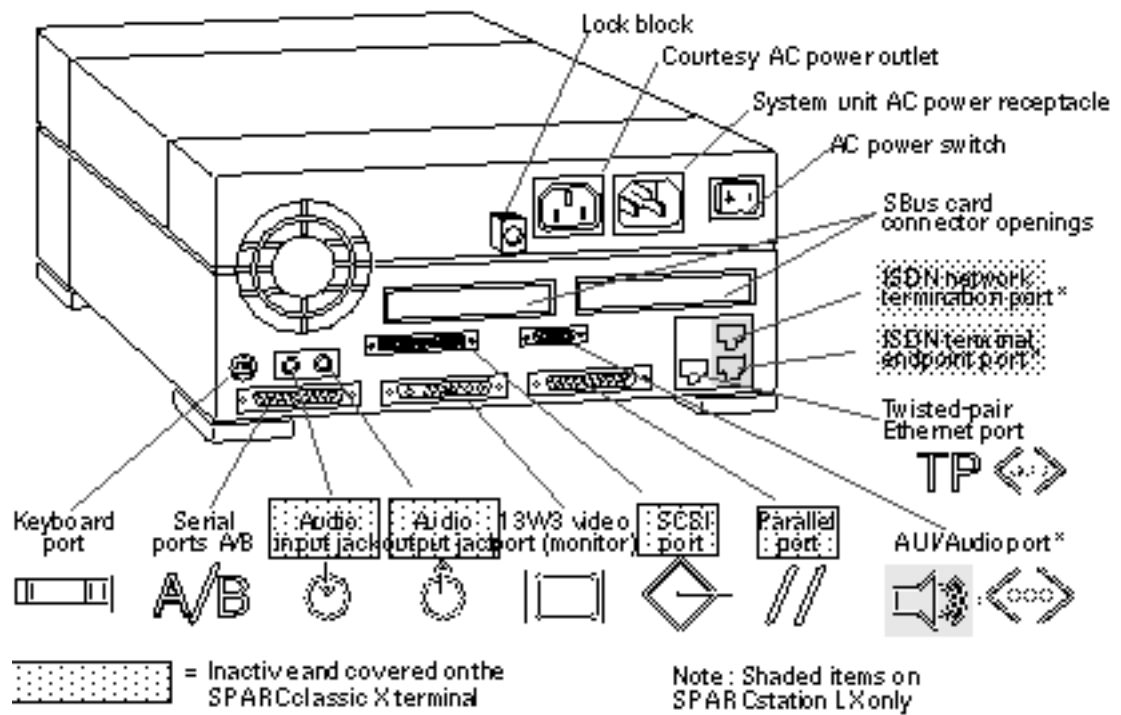
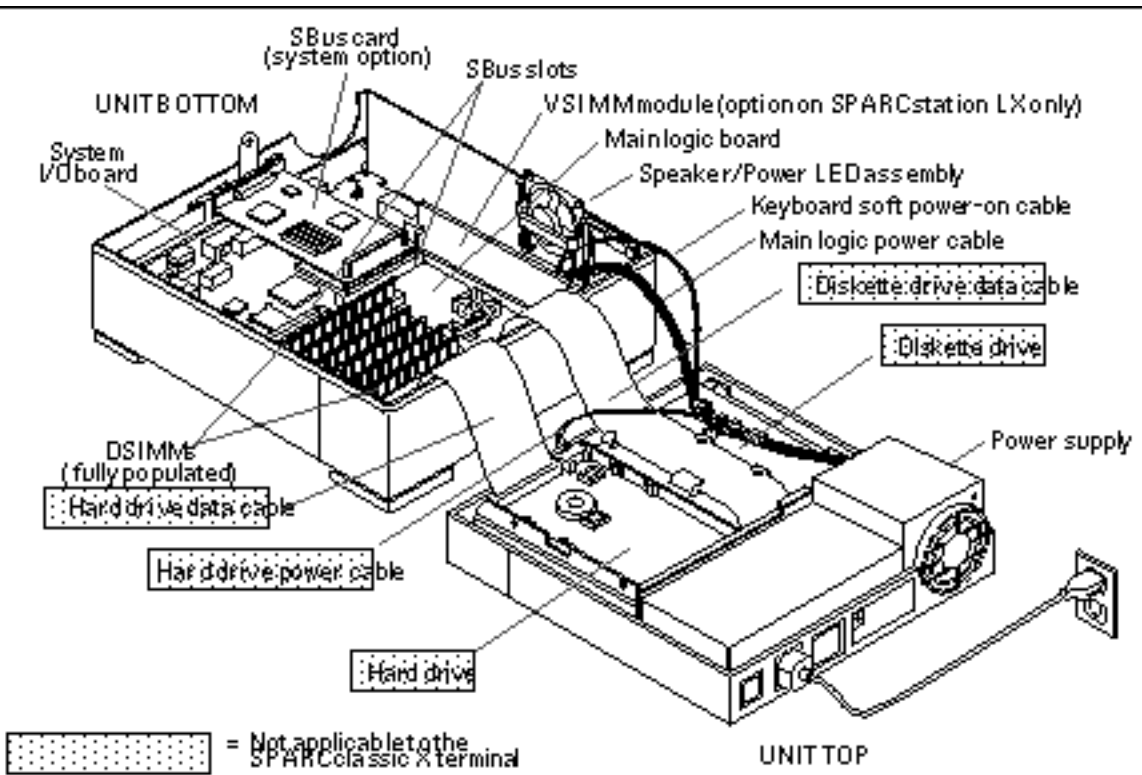
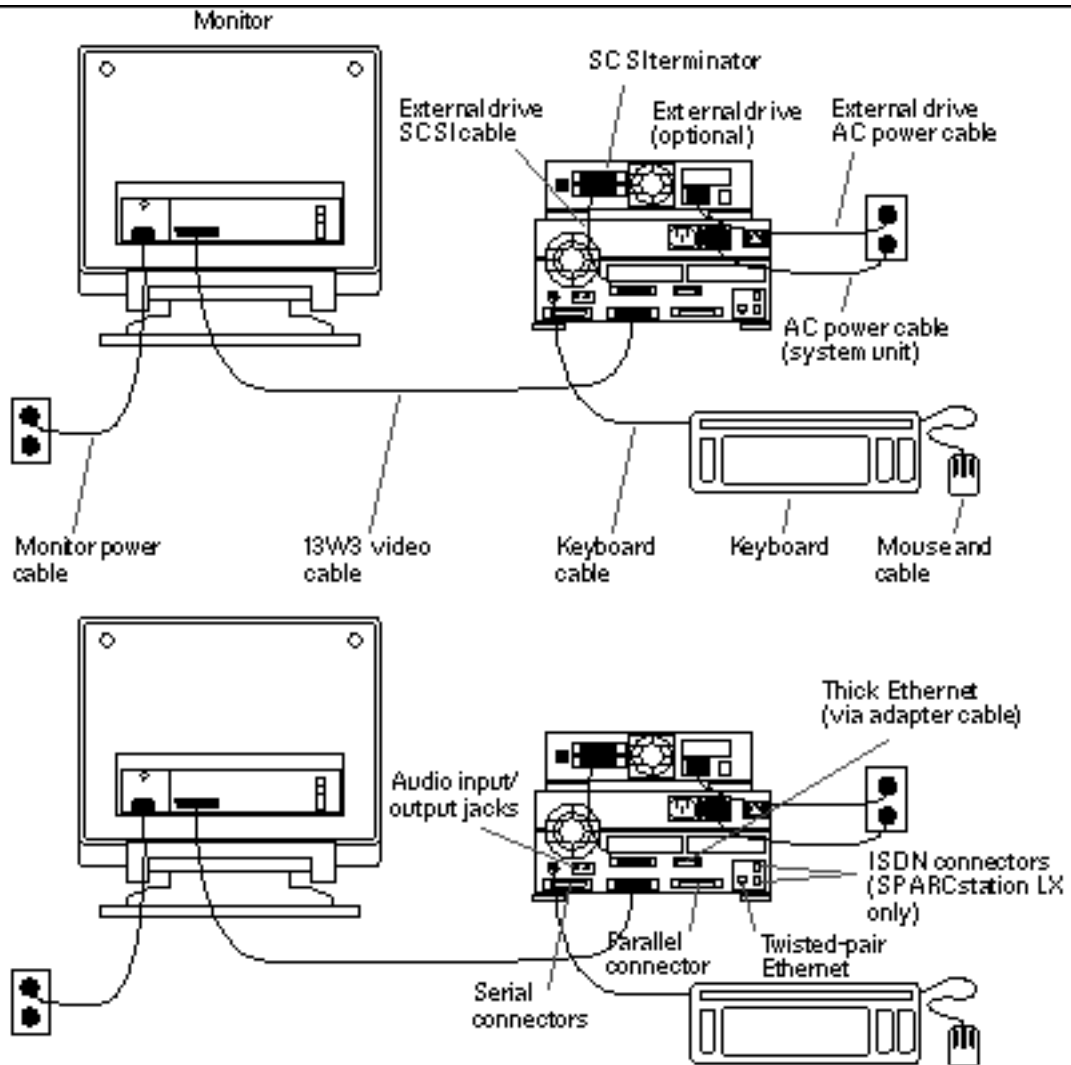

Figure 1-2 Rear Panel of the System Unit
Figure 1-3 System Unit Internal Components
Figure 1-6 Connecting the Major System Components
Figure 1-1 and Figure 1-2 show the front and rear panels of the system unit.
Internally, the SPARCclassic X terminal differs from the basic SPARCclassic system by the absence of the disk drive and diskette drive. The annotations to Figure 1-2 and Figure 1-3 indicate the differences among the SPARCclassic system, the SPARCstation LX system, and the SPARCclassic X terminal.
The main logic board (MLB) resides in the bottom half of the system unit. It plugs into the system input/output (I/O) board, which provides all of the external connectors to the system unit's back panel (see Figure 1-2).
Figure 1-6 illustrates how to connect the basic components of the SPARCclassic and SPARCstation LX workstations, and the SPARCclassic X terminal. For more detailed installation procedures, see *Desktop SPARC Hardware Owner's Guide or Using a SPARCclassic X Terminal*.
**Note** - The external drive in Figure 1-6 is not part of the SPARCclassic X terminal. See Figure 1-2 and Figure 1-3 for differences between the SPARCclassic X terminal and the SPARCclassic workstation.